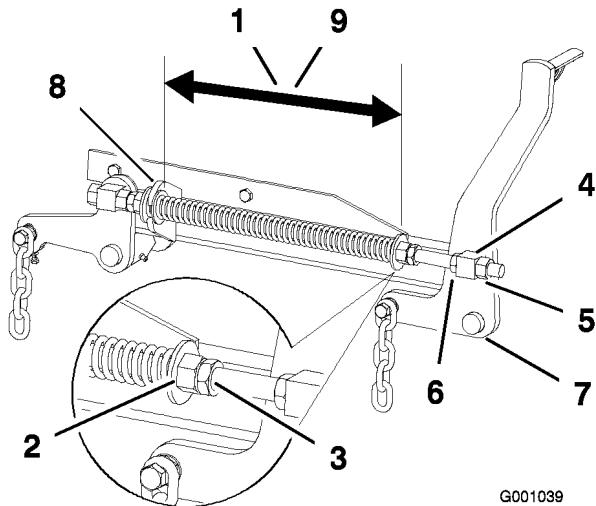

Figure 63
2. Check the distance between the two large washers, it needs to be 11-1/8 inches (28.2 cm) for 52 inch mower decks and 10-1/2 inches (26.7 cm) for 60 inch mower decks (Figure 63).
3. Adjust this distance, by loosening the spring jam nut and turning the nut in front of each spring (Figure 63). Turning the nut clockwise will shorten the spring; counter-clockwise will lengthen the spring.
4. Lock the nut into position by tightening the spring jam nut (Figure 63).